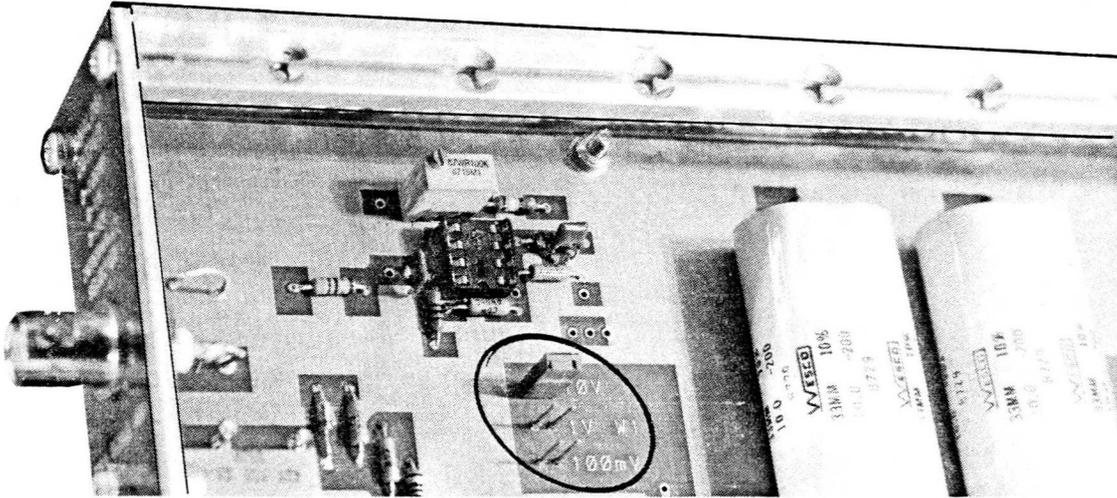

Fig. 3.1. Location of Analog Output Selection Jumper.
| Fig. 3.1. Location of Analog Output Selection Jumper . . . . . | 4 |
3. Locate jumper W1. It is located in the upper left-hand corner of the circuit board and is labeled W1. See Fig. 3.1.